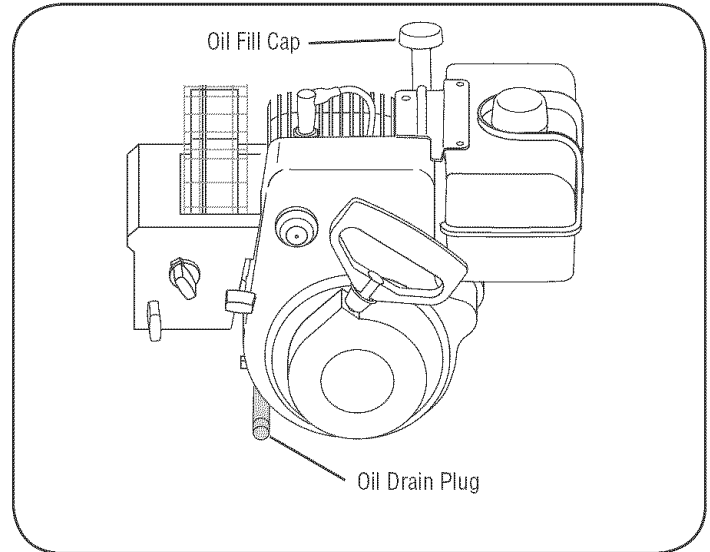

Figure 6
- Change oil after first two (2) operating hours and every 25 operating hours thereafter.
1. Locate the oil drain plug. See Figure 6.
3. Clean area around oil drain plug. See Figure 6.